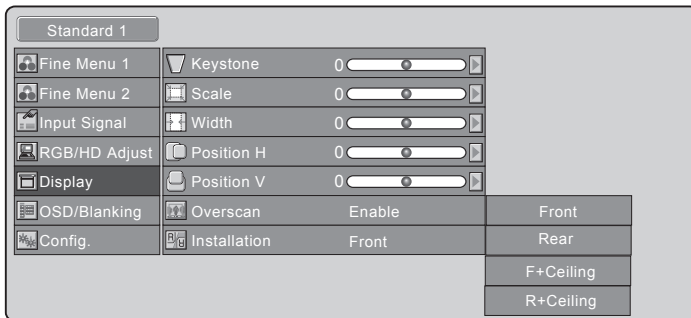

Figure 16
2. Using the Navigation ▲UP or ▼DOWN Push-button, select DISPLAY from the Main Menu choices. Refer to figure 16.